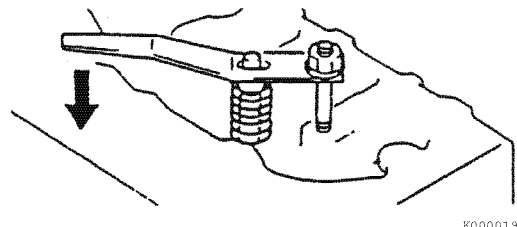

Figure 6-12
3. Using the valve spring compressor tool, compress one of the valve springs (Figure 6-12).